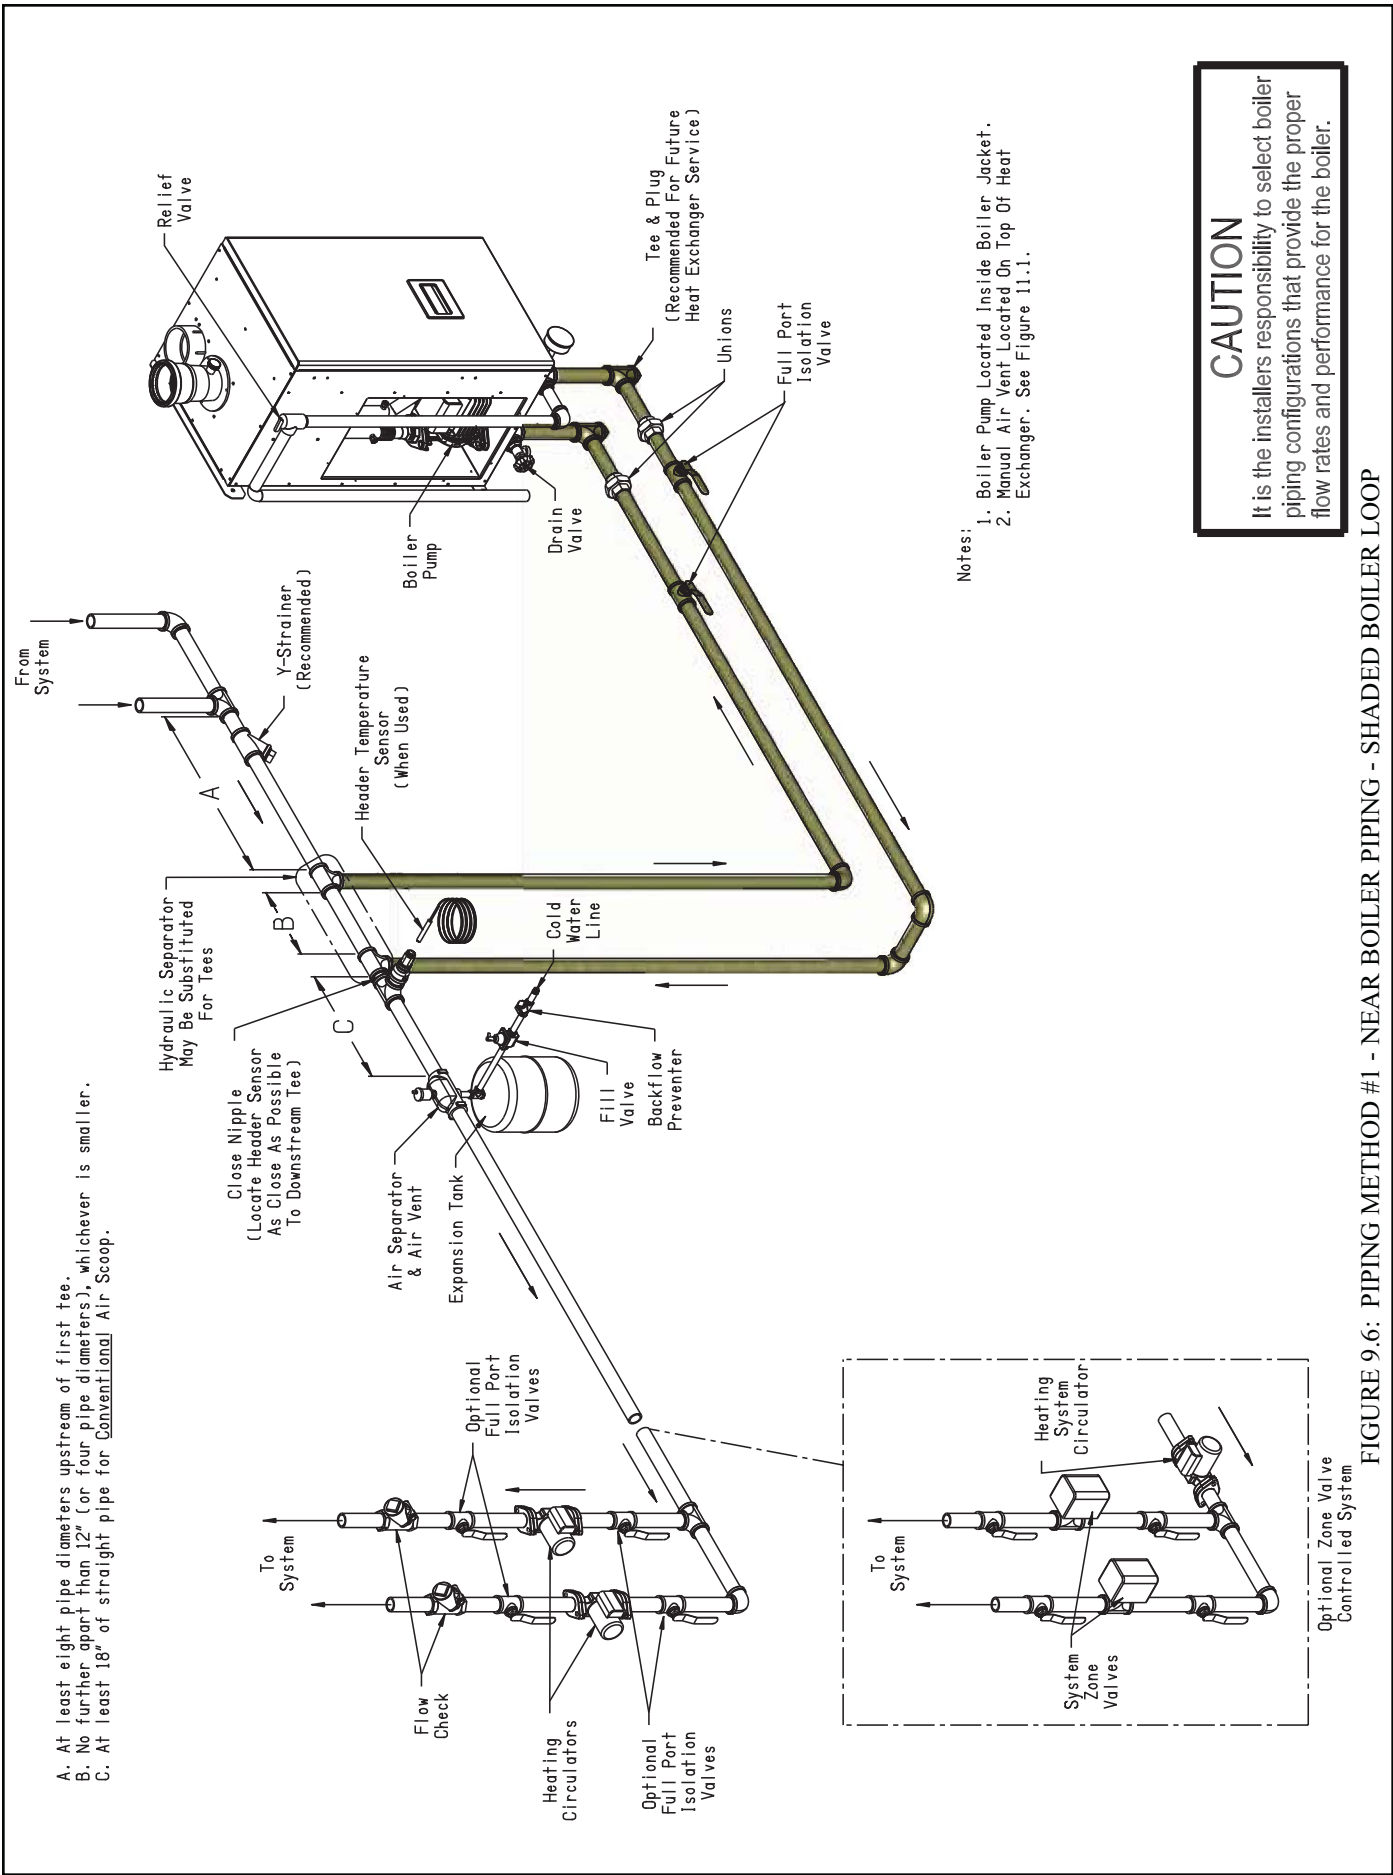

FIGURE 9.6: PIPING METHOD #1 - NEAR BOILER PIPING - SHADED BOILER LOOP
- a) Count all fittings in the planned boiler loop (the shaded piping in Figure 9.6). In doing so, do not count the secondary connection tees, unions, or the fittings supplied with the boiler (these have already been accounted for).
Example – A 120MBH model is to be connected to a heating system as shown in Figure 9.6. A total of 20 ft of straight pipe will be installed between the boiler and the system loop.
Count all fittings in the boiler loop (shaded in Figure 9.6):